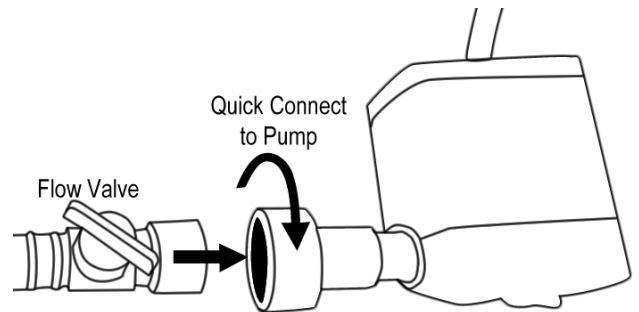
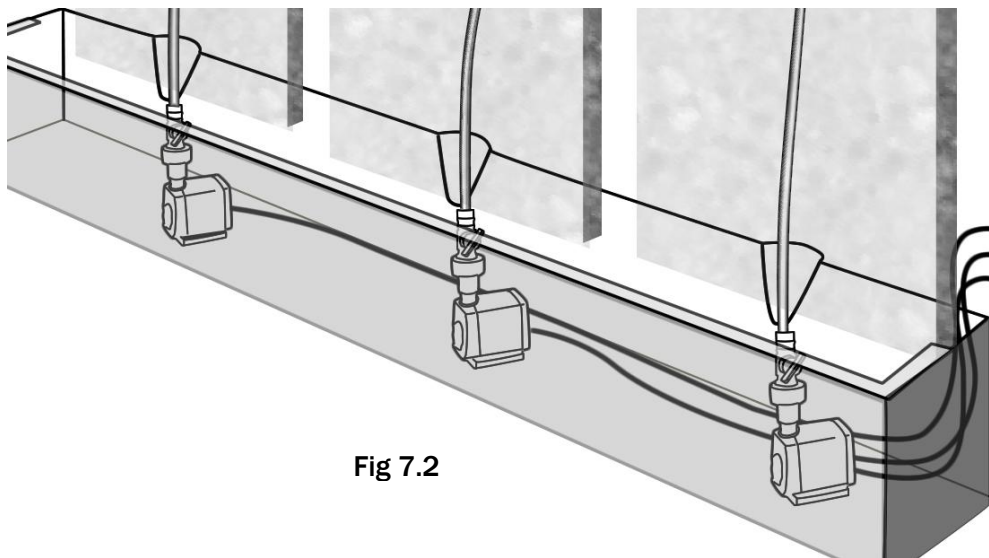

Fig 7.1
Fig 7.2
1. Place each pump assembly (H) inside the reservoir (L). **DO NOT plug the pumps (H) into any outlet. Operating the pumps dry will void any warranty and burn out the pump.** You will find a vibration reducing pad affixed to each pump. Make certain the pump is resting on this pad on the bottom of the reservoir.
2. Connect each pump (H) to the plumbing for each stone using the quick connect fitting (Fig 7.1). The flow valve **should** be open. Open is when the valve is in line with the plumbing. Closed is in perpendicular position. Make certain the quick connect fitting engages fully. Hang the **pumps** **ords** over the right or left side of the reservoir (Fig 7.2), whichever is closest to the electrical outlet you plan to use.